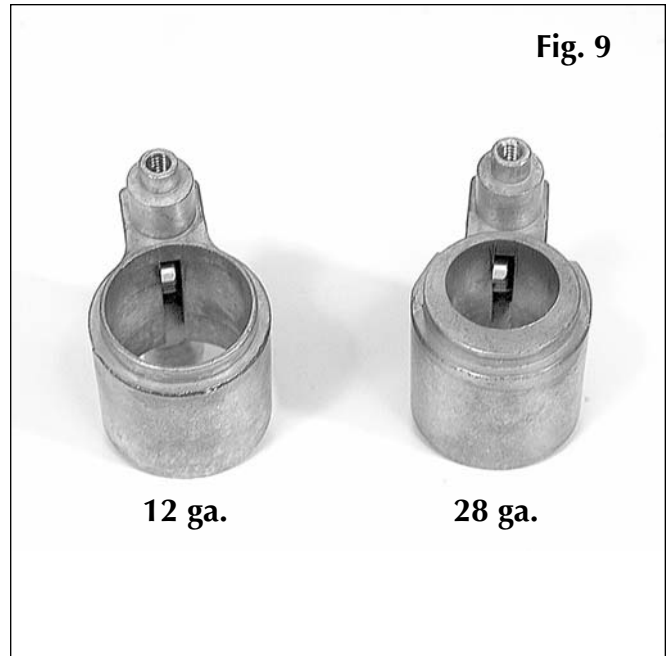

Fig. 9
3. From the 28 gauge conversion box, retrieve the 28 gauge casefeed sleeve and place it on the casefeed body. Reinstall the screw and washer onto the casefeed sleeve assembly. Note the difference in diameter between the two pieces. **Fig. 9**